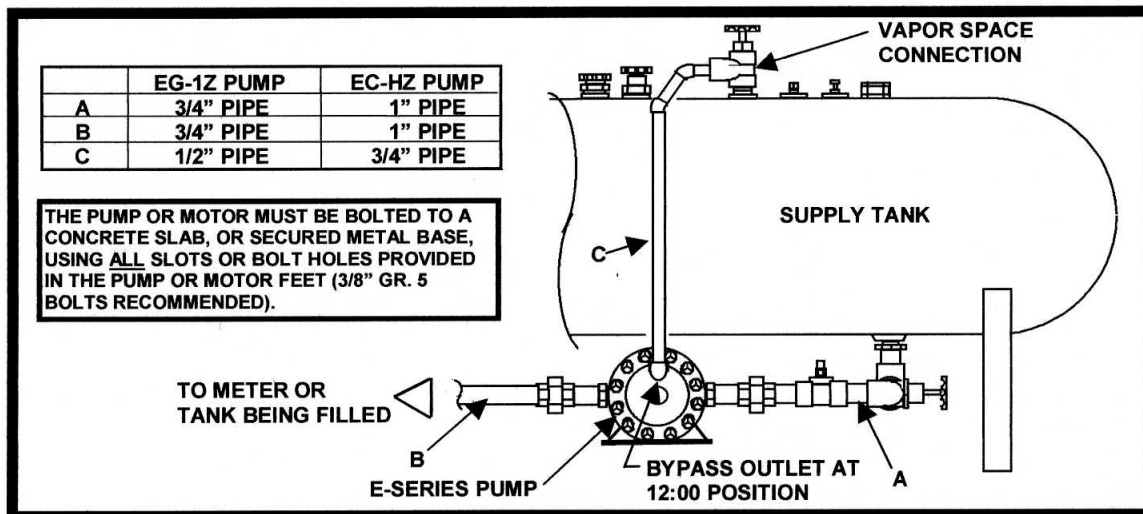

Fig. 3: GENERAL INSTALLATION OF E-SERIES LPG PUMP USING BUILT-IN BYPASS VALVE.
The installation of a small LPG pump can be made easily (Fig. 3). The small pump illustrated has a built-in strainer. If the pump requires a separate strainer, be sure that the strainer is properly placed between the storage tank and the pump inlet. A 1¼-in. excess flow valve is utilized in the bottom outlet of the tank, in Fig. 3, and the separate shut-off valve shown is an approved 1-in. globe, angle, or ball valve. An approved internal valve can also be utilized. For best results with both models mentioned above, item (A) is a 1-in. Sch. 80 heavy-duty steel pipe, with a ¼-in. hydrostatic relief valve installed in a tee. Item (B) is the outlet line, which can usually be the same size pipe as the pump outlet, or identically sized standard length hose, with the appropriate hose excess flow and end valves. No bypass valve is shown in Fig. 3, because the pump has a built-in bypass valve, which is arranged to discharge through an external line. Also, no pressure equalizing line is shown, since one is usually not necessary with small LPG and NH₃ pumps. A pressure equalizing line can be used if desired, as can an external bypass valve discharging to the supply tank (these would be required for small pumps in low-pressure liquid Carbon Dioxide service). Be sure to follow all safety regulations.